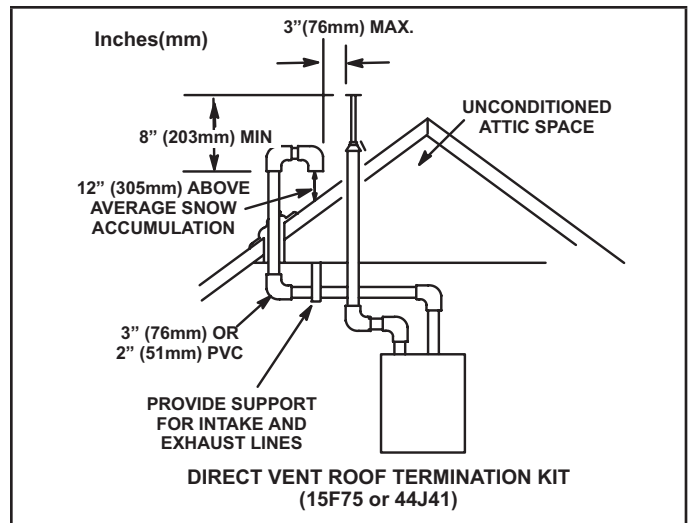

FIGURE 29
Intake and exhaust pipes may be routed either horizontally through an outside wall or vertically through the roof. In attic or closet installations, vertical termination through the roof is preferred. FIGURE 29 through FIGURE 36 shows typical terminations.
- 3 - On roof terminations, the intake piping should terminate straight down using two 90° elbows (See FIGURE 29).